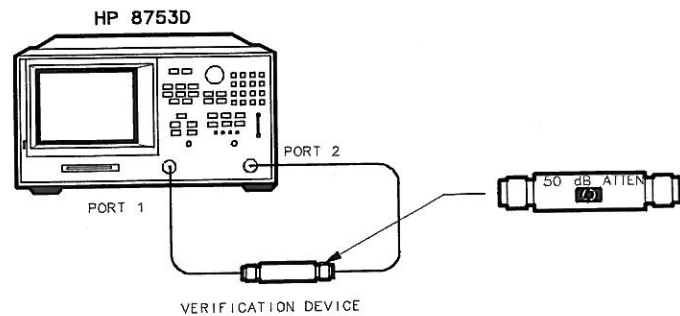

Figure 1-5. Connections for the 50 dB Verification Device
37. When the analyzer finishes all the measurements, connect the 50 dB attenuator (supplied in the verification kit), as shown in Figure 1-5.